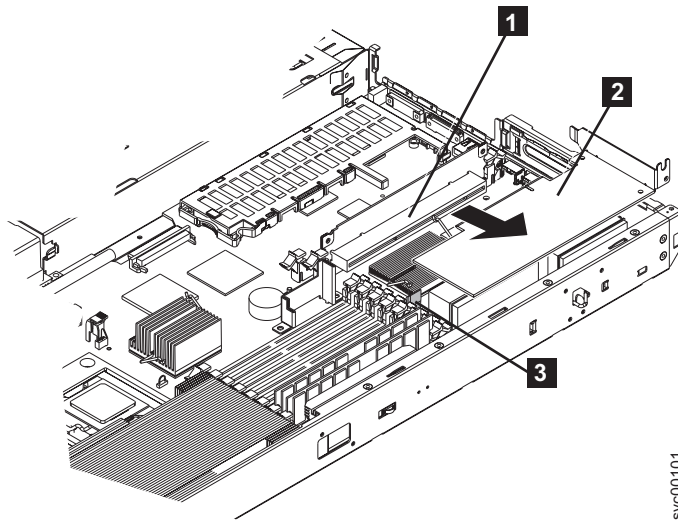

Figure 64. SAN Volume Controller 2145-8F2 riser card and low profile adapter
- a. Hold the blue adapter support away from the card and pull it away from the edge connector on the riser card assembly. See Figure 64.